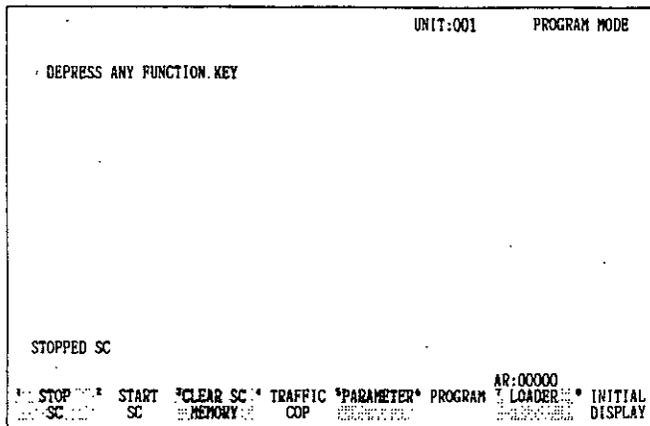

Fig. 4.8
Depressing **SUPERVISORY** key after ATTACH activation produces the display shown in Fig. 4.8, enabling the SUPERVISORY operations indicated in the label area.
3. Depressing **PREVIOUS DISPLAY** key calls Fig. 4.8.
3. Depressing the **PREVIOUS MENU** key after completion of parameter setting returns the display to the supervisory display (see Fig. 4.8).
2. When depressing **CANCEL** key instead of **CONFIRM** key, the display shown in Fig. 4.8 appears with GL60S running.